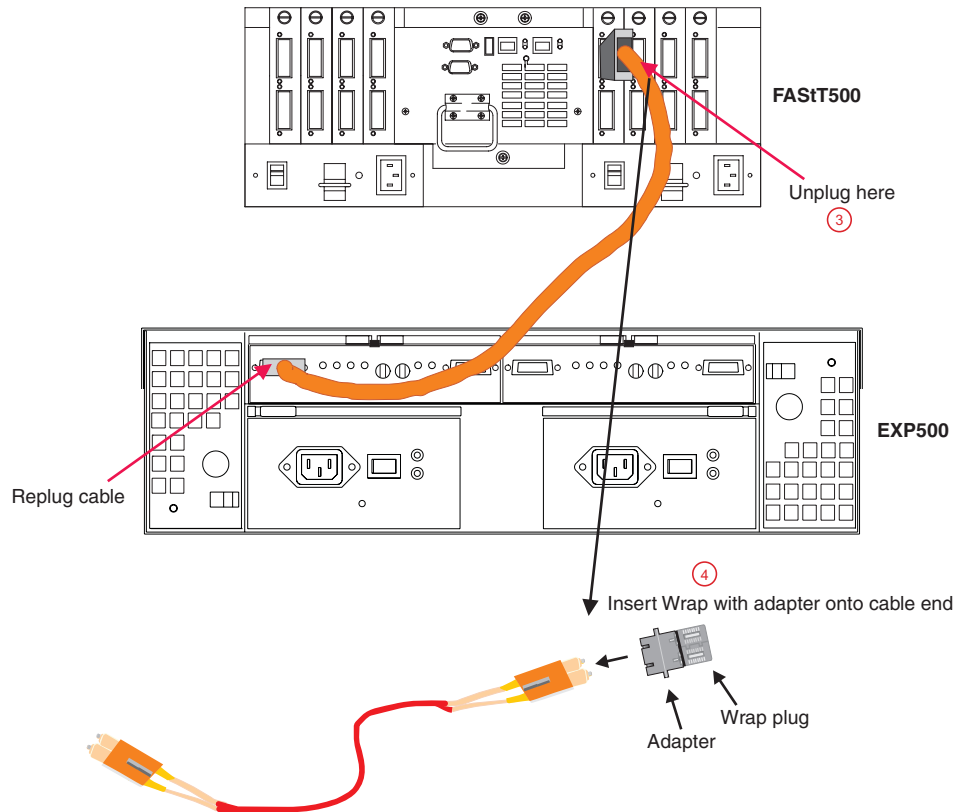

Figure 158. Insert wrap plug with adapter on cable end
4. Insert a wrap plug with an adapter onto the cable end. See Figure 158 on page 341.